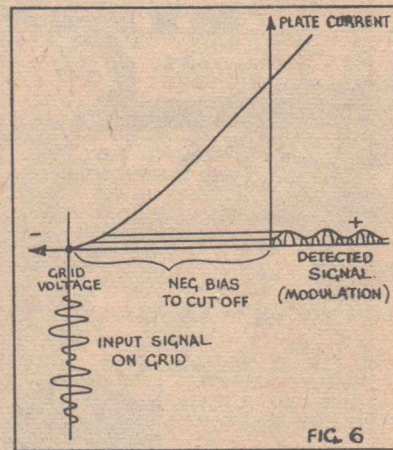

FIG. 6
already blocked. But making the grid less negative will start off plate current again which, in this region, will be subject to fluctuations corresponding to alterations in grid current. Fig. 6 again shows a grid voltage-plate current characteristic of a valve, but this time when used as bias detector. The valve is biased to about cut-off point by means of a battery or other methods. The modulated carrier wave then applied to the grid will only be effective during its positive half cycle, the negative being almost entirely suppressed. This brings out the modulation in the before described way, which will from now on be called "audio frequency," as against radio frequency (RF).